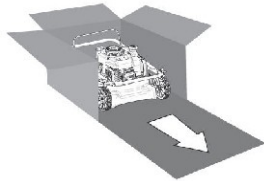

Fig.2
1. Cut down two end corners of the box (Fig.2) and lay the end panel down flat.